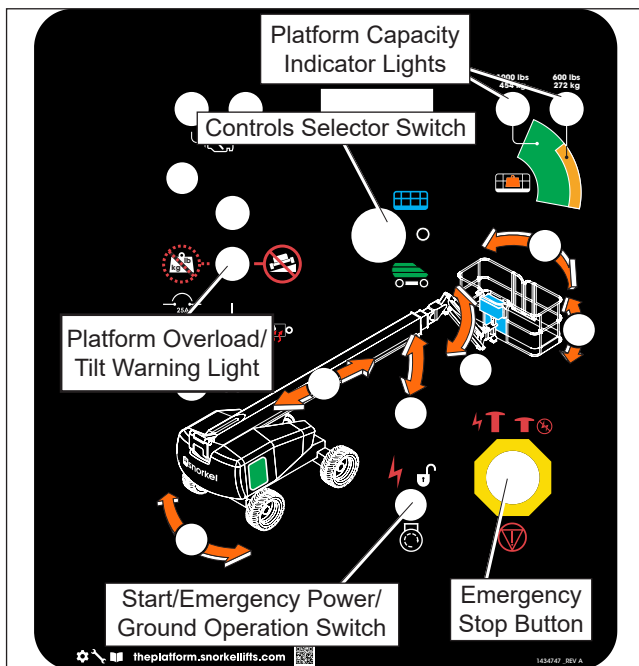

Figure 8.1 – Lower Controls
1. Pull the emergency stop button (refer to Figure 8.1) outward and place the control selector switch in the lower control position.
2. The start switch (refer to Figure 8.1) function works like an automobile ignition switch.
There are two indicator lights on the lower and upper control panels (refer to Figure 8.1 and 8.2) that indicate whether the platform is in the 600 lb or 1,000 lb region of the working envelope. Some boom control functions prevent positioning the boom into a restricted position. The dual platform capacity logic is shown in Figure 8.4.